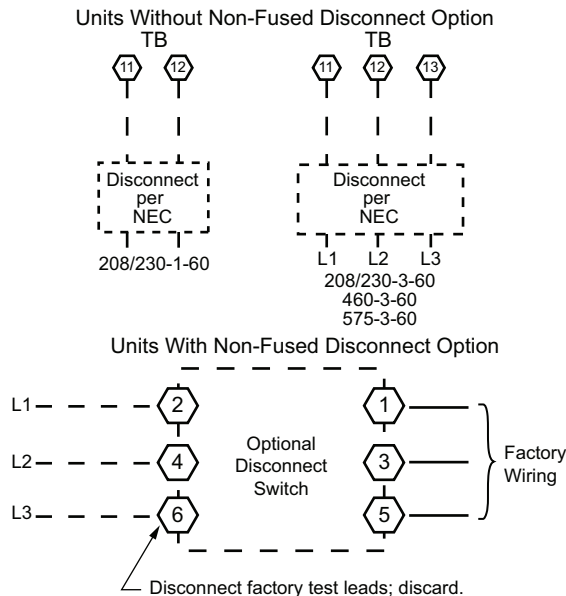

Fig. 17 — Power Wiring Connections
Refer to Fig. 17 for power transformer connections and the discussion on connecting the convenience outlet on page 14.
Field power wires are connected to the unit at line-side pressure lugs on compressor contactor C (see wiring diagram label for control box component arrangement) or at factory-installed option non-fused disconnect switch. Maximum wire size is No. 2 AWG (copper only). (See Fig. 17 and 18.)
The factory-installed option non-fused disconnect (NFD) switch is located in a weatherproof enclosure located under the main control box. The manual switch handle and shaft are shipped in the disconnect enclosure. Assemble the shaft and handle to the switch at this point. Discard the factory test leads (see Fig. 17).
All field wiring must comply with NEC and all local codes. Size wire based on MCA (Minimum Circuit Amps) on the unit informative plate. See Fig. 17 and the unit label diagram for power wiring connections to the unit power terminal blocks and equipment ground. Maximum wire size is No. 2 ga AWG per pole.
2. Install power lines to terminal connections as shown in Fig. 17.